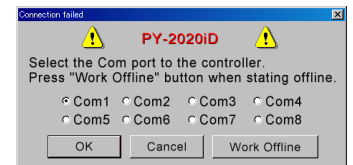

Fig. 6.3
- 6.3 If files location other than “**C:\Program Files\PY-2020iD Control**” or “**C:\Program Files(x86)\PY-2020iD Control**” has been used, COM port query window (Fig. 6.3) may be displayed at the first startup. Choose COM port number recorded in Step 3.3.